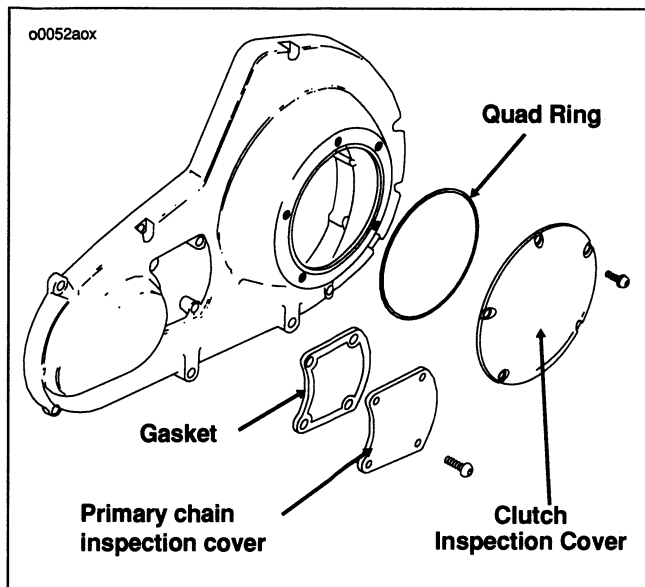

Figure 44. Primary Chaincase
2. See Figure 44. Remove screws and washers that secure clutch inspection cover.